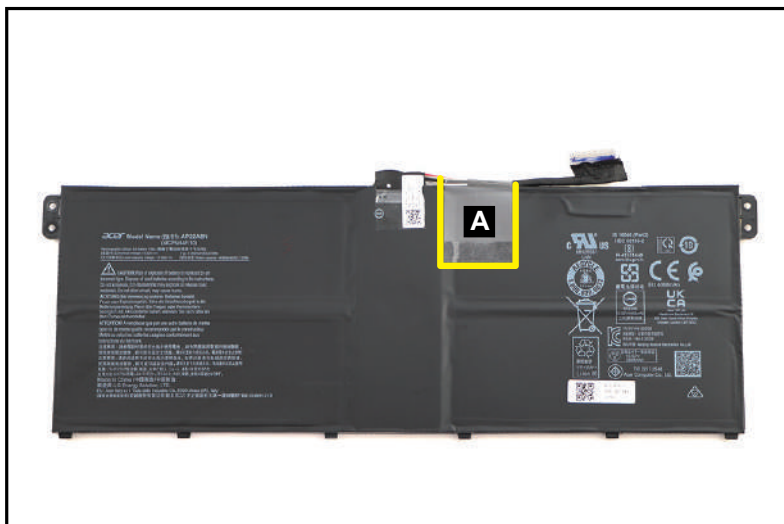

Figure 3-163. Replacing the Battery Pack
1. Attach the mylar (A) to secure the battery cable in place (Figure 3-163).